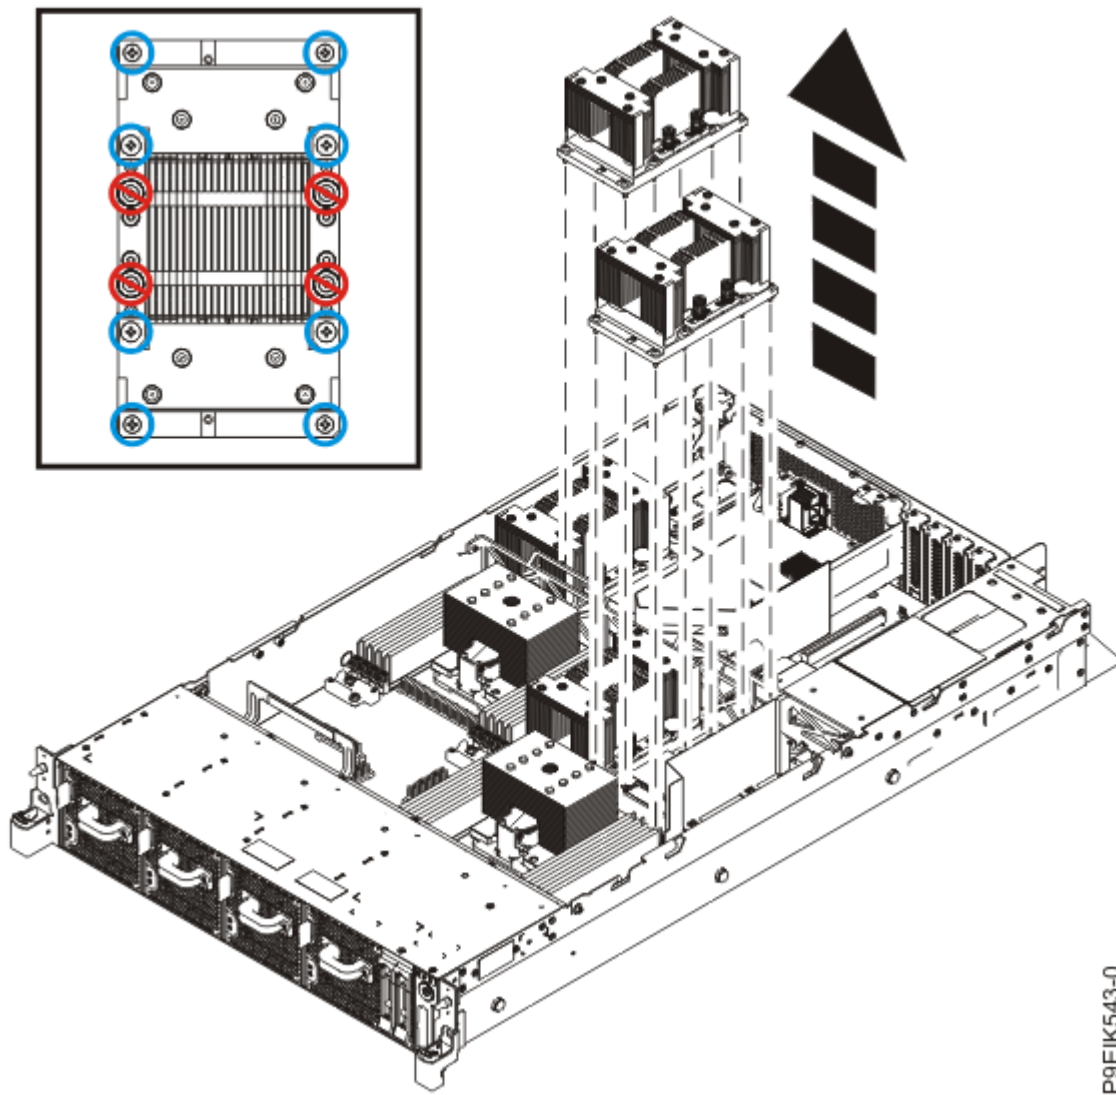

Figure 24. Remove eight GPU screws per GPU; do not loosen the four spring-loaded screws
3. For the GPU you are removing, remove the eight screws that are shown in Figure 24 on page 33.